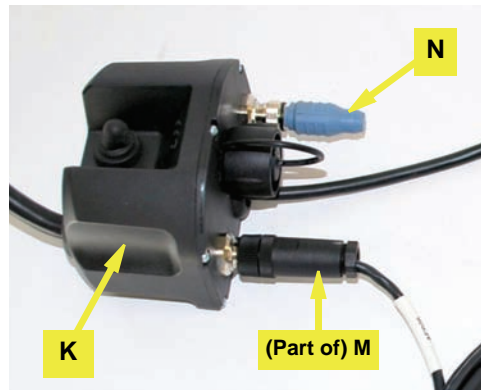

Figure 6d: CAN harness and terminator connected to junction box
e. Connect the threaded 5-pin connector on the CAN bus harness **M** to either of the threaded connectors on the junction box **K**. Connect the CAN bus terminator **N** to the other threaded connector on the junction box (Figure 6d).